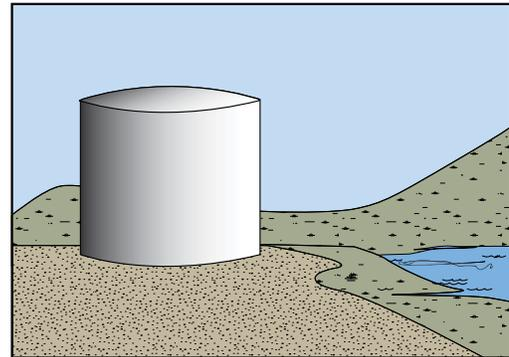

Figure LST-2. Rigid tank-of-opportunity used for intermediate or final storage of recovered fluids.
**Rigid Tanks** – Rigid tanks are constructed of steel, aluminum, or plastic and may include: tanks-of-opportunity located near the response site or tanks delivered to the transfer site. Rigid tanks are the preferred means of storage, especially if the storage is for a long period (Figure LST-2). Rigid tanks also include open-top lined dumpsters, ore bins, or similar resources. Rigid tanks should be inspected prior to use.